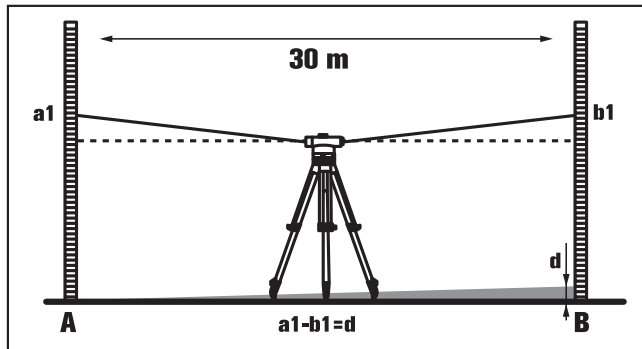

Fig.10
1. Checking should be done at a distance of 30m. Place the instrument in the center of this distance, put 2 leveling rod at the both end of measuring distance A and B separately. ( see fig.10)